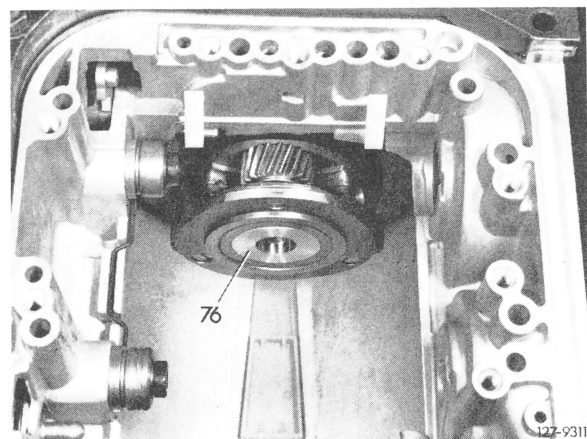

Fig. 18
**27** Loosen output shaft (76) with plastic hammer and remove (Fig. 18).